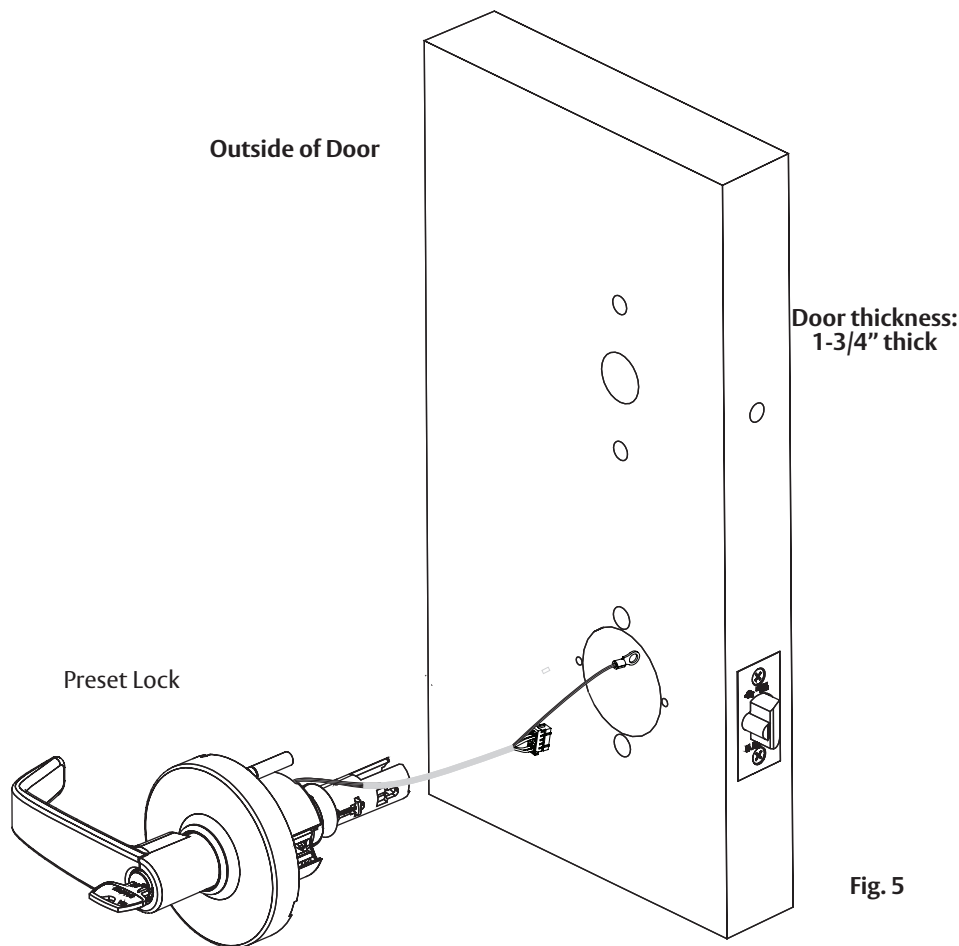

Fig. 5
- Lockbody holes: 12 and 6 o'clock (Fig. 5).